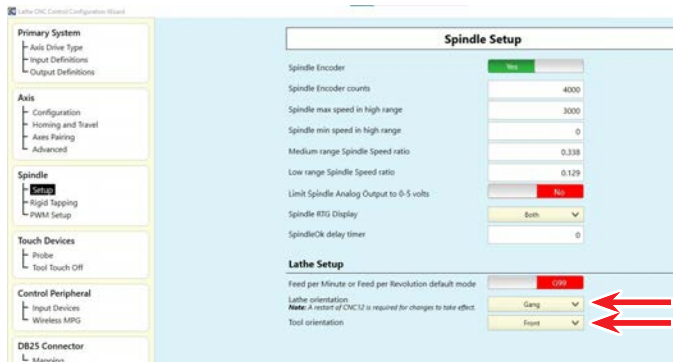

FIGURE 1
- To get to the Wizard. Click on Utility F7, Acorn Wizard F10. Wait for the Wizard to come up. Click on Spindle #1 as shown below (see Figure 1) and change Lathe Orientation to “Gang” and Tool Orientation to “Front.”